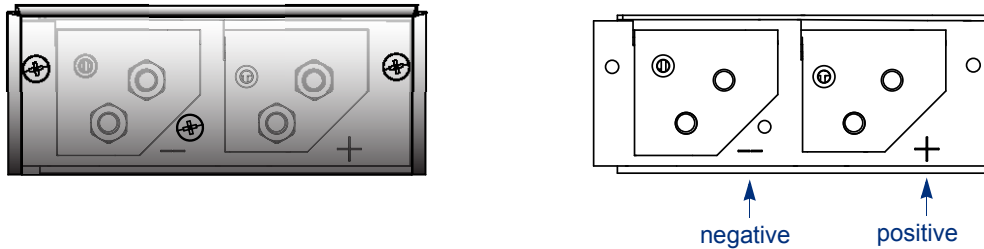
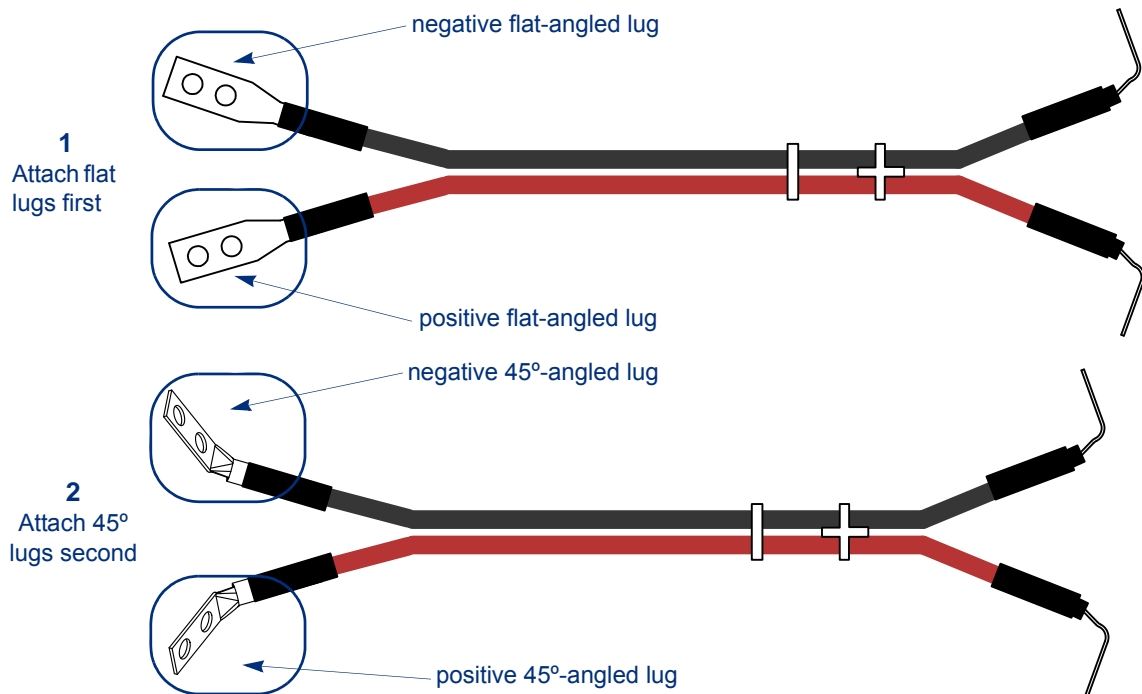

Figure 12. Terminal cover - AC power supply
Figure 13. #4 AWG wire set, flat and 45°-angled lugs
3. Using one of the two sets of #4 AWG wiring pairs, place one negative, flat-angled lug (Figure 13) over the negative (left side) set of 2 DC connectors on the AC power supply (Figure 12).
4. From the same set of #4 AWG wires, place the positive, flat-angled lug (Figure 13) over the positive (right side) set of 2 DC connectors on the AC power supply (Figure 12).
13. Replace the safety terminal cover (Figure 12) of the AC power supply over the DC connectors (now with DC wires installed). Use a Phillips-head screwdriver to tighten the screws of the terminal cover.